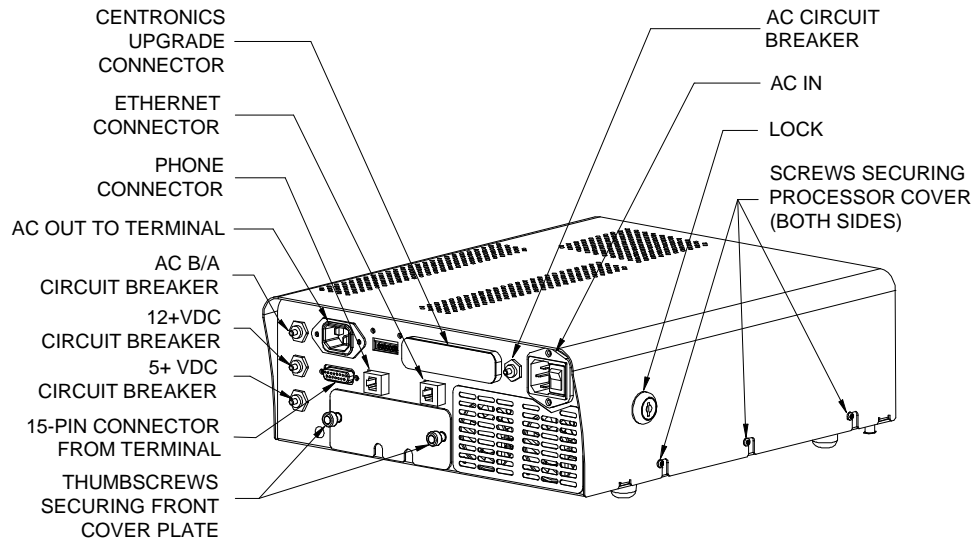

FIGURE 12A - EXTERNAL CONNECTION LOCATIONS ON VIBE WITH BILL PROCESSOR
8. *Vibes with bill only:* Connect the AC power cord from the terminal to the processor as shown in Figure 12A and tighten the screws on the connector to secure it.